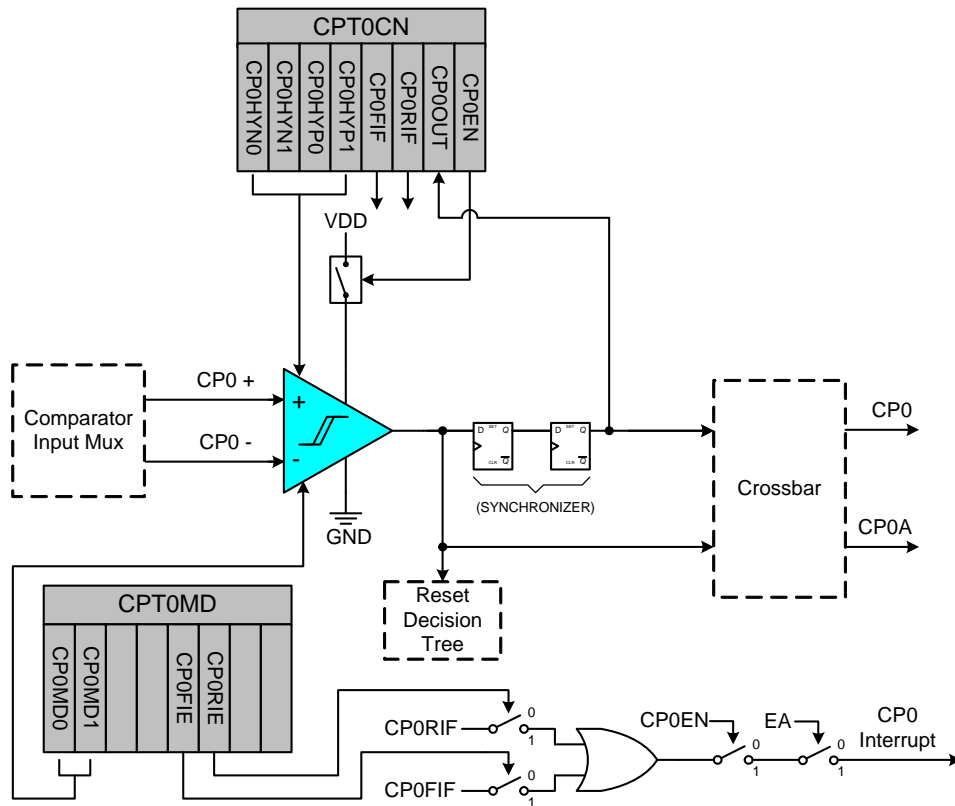
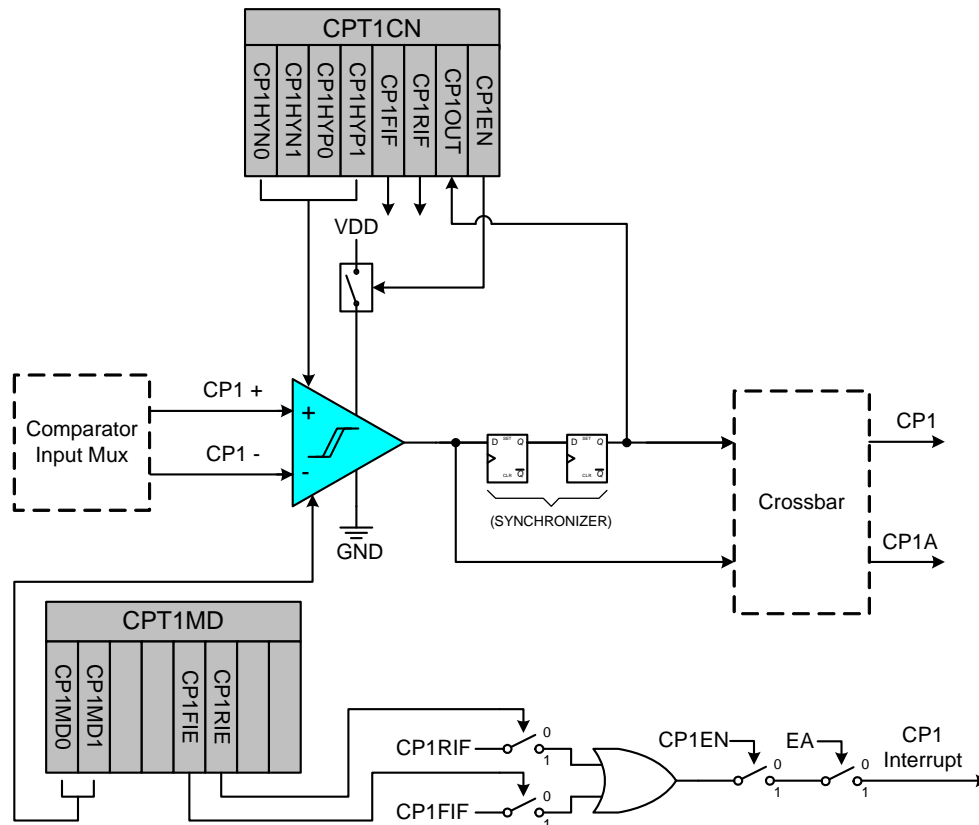

Figure 7.1. Comparator0 Functional Block Diagram
Figure 7.2. Comparator1 Functional Block Diagram
C8051F380/1/2/3/4/5/6/7 devices include two on-chip programmable voltage comparators: Comparator0 is shown in Figure 7.1, Comparator1 is shown in Figure 7.2. The two comparators operate identically with the following exceptions: (1) Their input selections differ as described in Section “7.1. Comparator Multiplexers” on page 66; (2) Comparator0 can be used as a reset source.